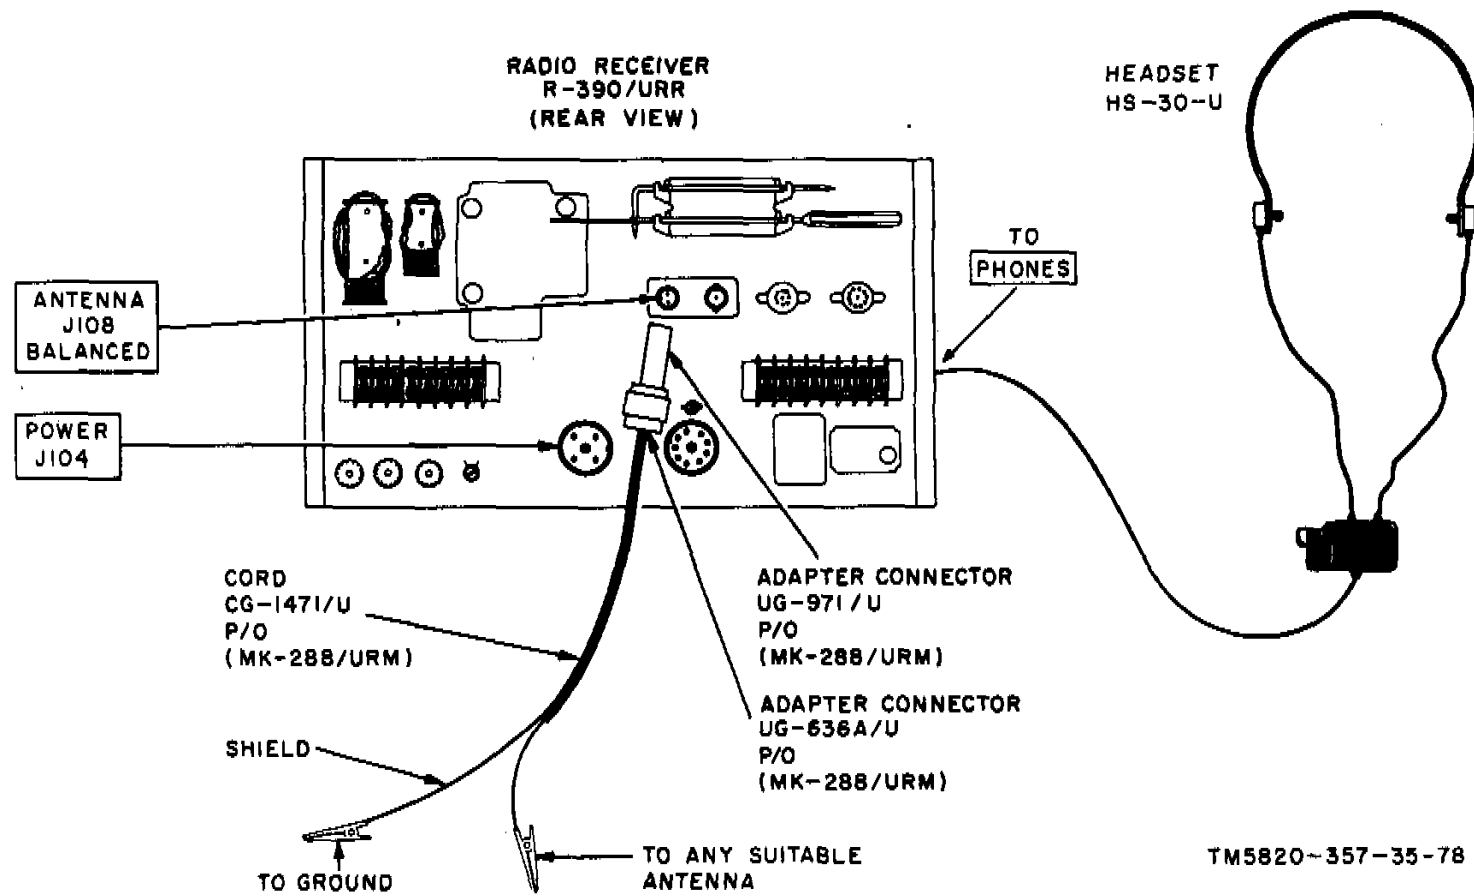

Figure 53. Operational test setup.
(fig. 53)
b. Test Connections and Conditions. Connect the equipment as shown in figure 53. Dial indicators should light.